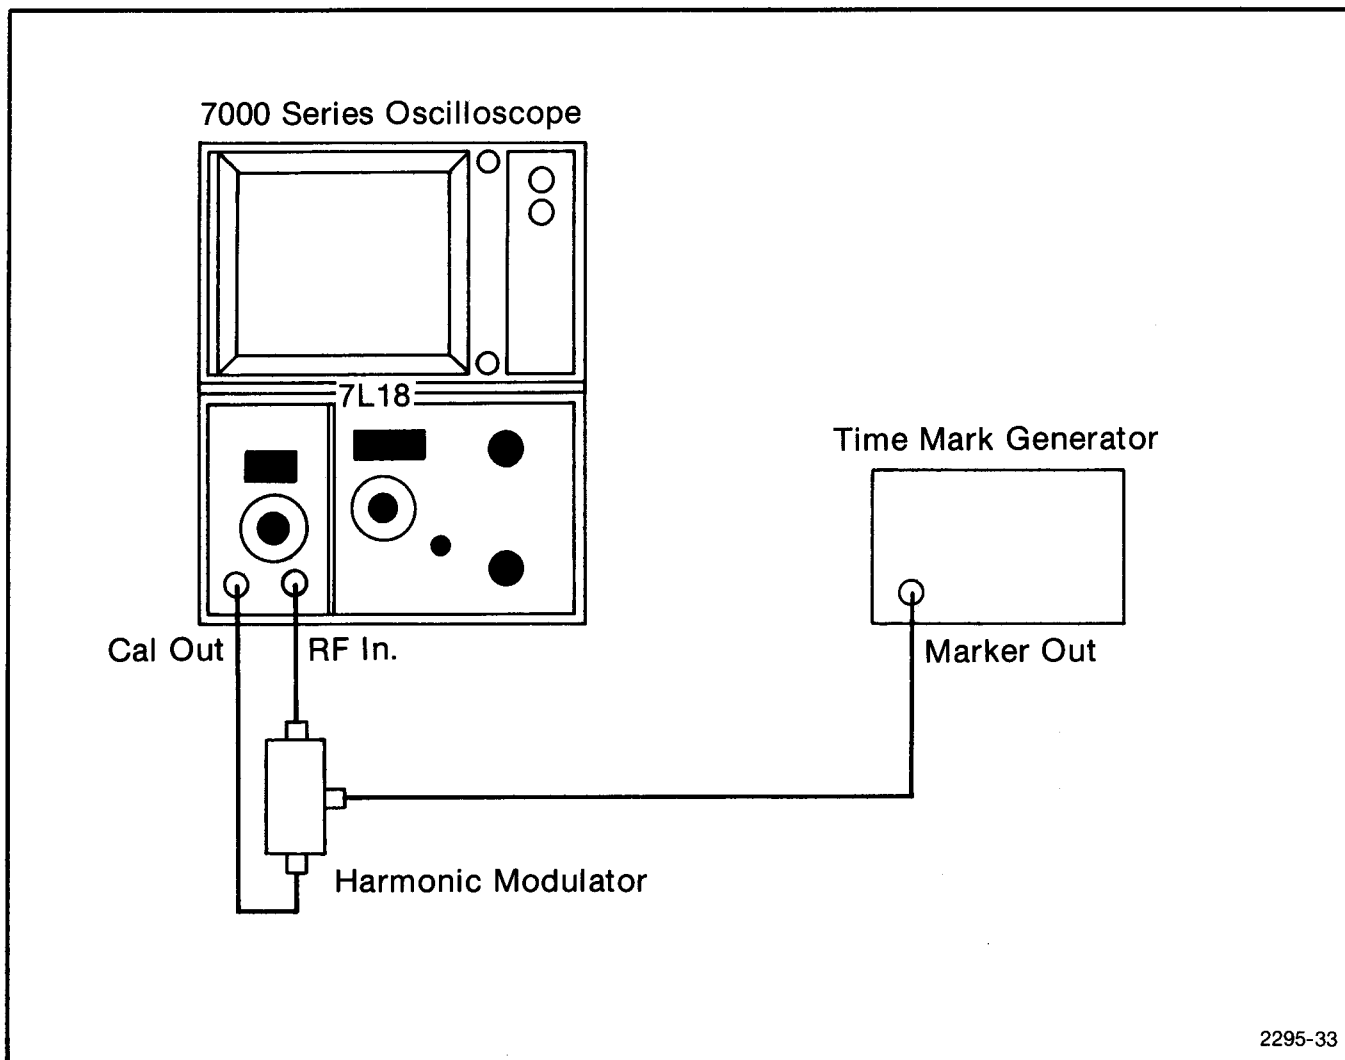

Fig. 4-25. Equipment Setup for Calibrating Sweep Timing.
h. Connect test setup as shown in Fig. 4-25. The input signal to the 7L18 will be modulated by time-markers. Set the 7L18 front panel controls as follows: